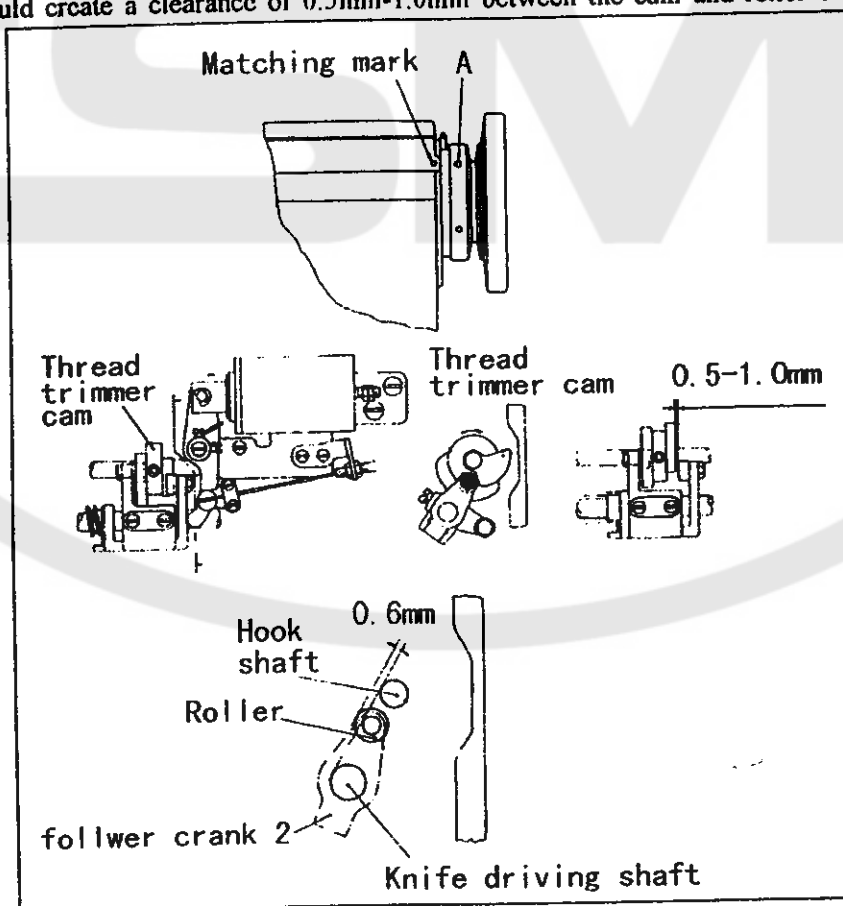

Fig.38
5) Installing the thread trimming cam (Fig.38):